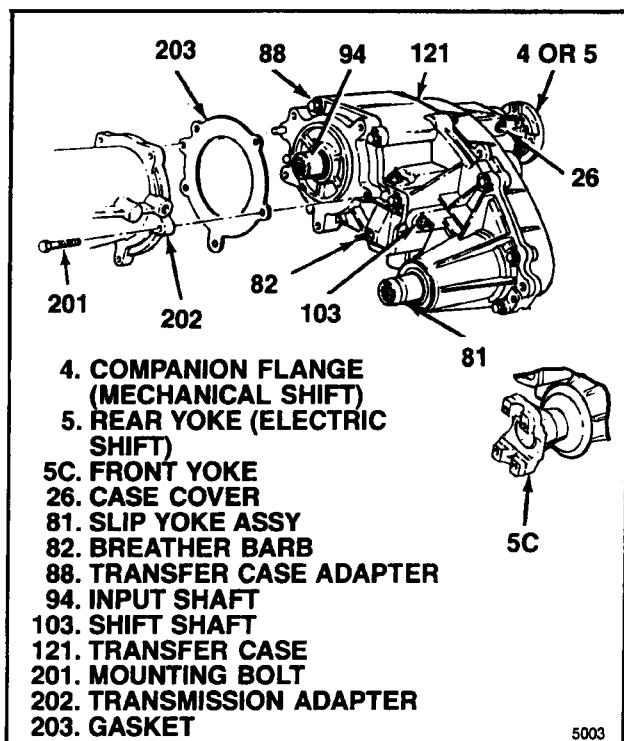

Figure 2-2. Transfer Case Installation
**2-11. REMOVAL OF TRANSFER CASE.** Refer to the vehicle service manual for specific instructions regarding supports, skid plates, shift linkage, wiring harness, speedometer cable and other components related to the transfer case installation. These may need to be removed to provide access to the transfer case. A suitable hoist for the vehicle and a jack or stand for the transfer case will be required. The jack or stand must be capable of completely and independently supporting the transfer case. It also must be able to lower, raise and move the transfer case laterally. Proceed as follows (see figure 2-2):
**Make sure transfer case is completely supported by jack or stand before removing bolts (201) attaching transfer case to transmission. Do not allow transfer case to hang from transmission through splined shafts or damage may result.**
m. Remove bolts (201) attaching transfer case to transmission adapter (202).
n. Move transfer case straight back to completely disengage spline of transfer case input shaft (94) from transmission.
p. Remove gasket (203) used between transmission and transfer case.
**2-12. INSTALLATION OF TRANSFER CASE.** Refer to the vehicle service manual for specific instructions regarding supports, skid plates, shift linkage, wiring harness, speedometer cable and other components which were removed to provide access to transfer case. With vehicle on hoist and transfer case on a suitable jack or stand, proceed as follows (see figure 2-2):
b. Install new gasket (203) on mounting face of transfer case.